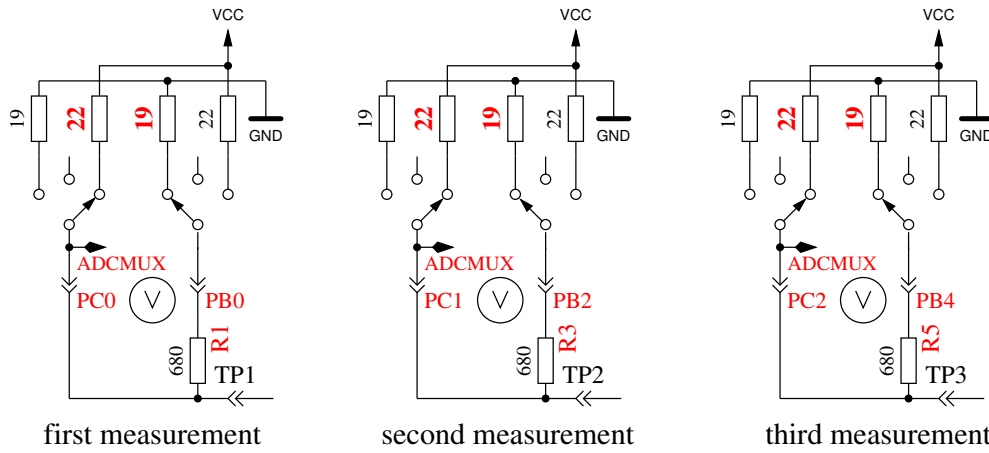

Figure 5.41: Measurement of internal resistance of Port C switched to VCC
8. **Measuring of internal resistance of port outputs switched to the VCC (+)signal.** The needed current is generated with to GND connected  $680\Omega$  resistors . It are the same measurements as those in test 7 to the other side as you can see in Figure 5.41. With the following steps the resistance is computed: To get the current, the following is computed:  $(VCC - (resultoftest7) - (resultoftest8))/680$ . To get both resistor values, the voltage (result of test 7 or 8) is divided by this current. The result for this test will then be notified in row 1 with the text "RI.Hi=", the resistance value ( $\Omega$ ) to the GND side is displayed in row 2 with the text "RI.Lo=". Both results will be written to the EEprom memory and will be used for further measurement.